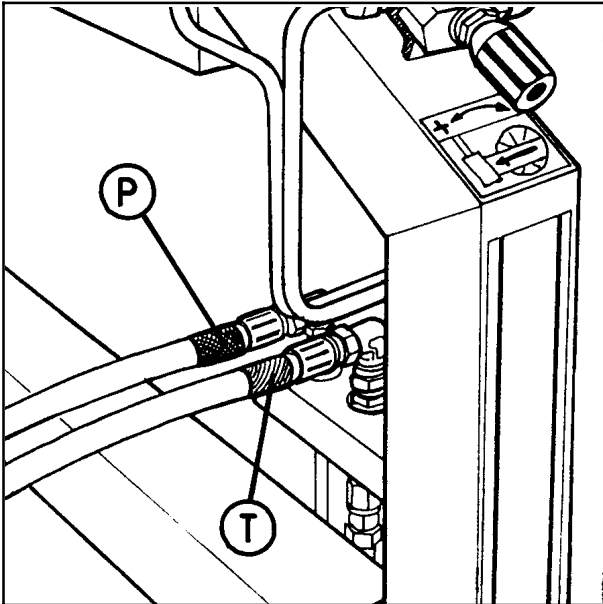

Fig. 4-4
The counter pressure on the return must be as low as possible, and not exceed 10 bar. This should be measured with a gauge. It is recommended to use one single-working hydraulic outlet and arrange a free return circuit to the oil tank. If you are unsure of what oil pressure the tractor gives, or what oil pressure the balewrapper receives, please contact your machinery dealer. Generally all tractors have got some counter-pressure in their hydraulic return systems. Some tractors have more than others. **Hose with red cap shall be connected to pressure, (P), and hose with blue cap to the return, (T).** (See fig. 4-4).